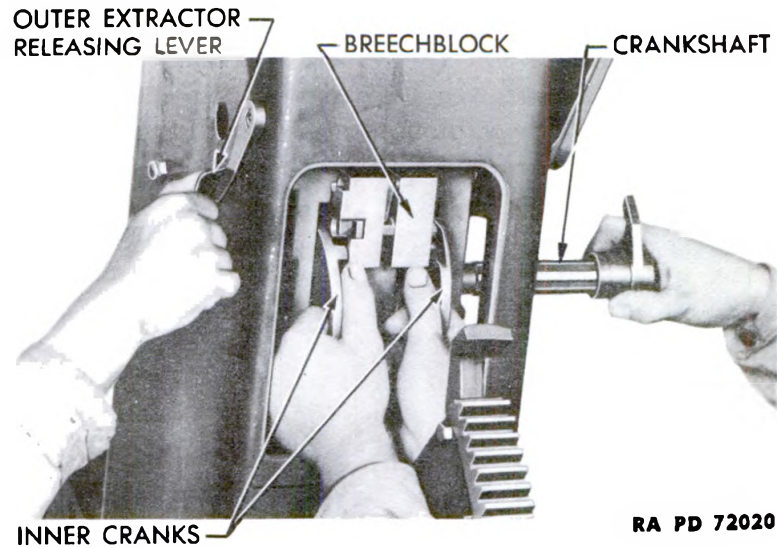

Figure 129 – Breechblock and Inner Cranks – Installation
(2) With the bottom cover removed, insert the breechblock and inner cranks into the bottom of the breech ring until further inward movement is stopped by the extractors. Press the extractor release lever (fig. 129) and push the breechblock into the breech ring as far